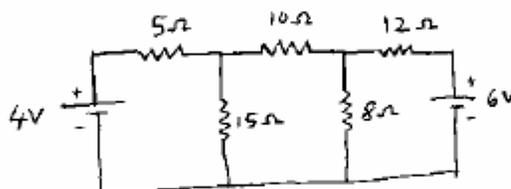

Fig. 1
11. (a) (i) Using nodal method find current through 8Ω resistor of fig. 1. (8)